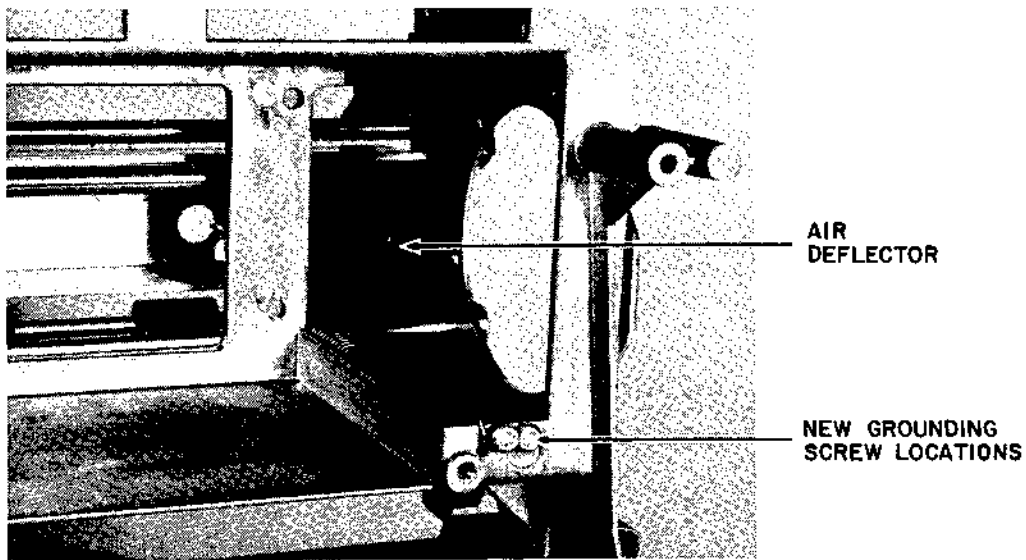

Figure 5-55 FAN AIR DEFLECTOR INSTALLATION
4. Locate the cavity into which the power supply is to be fitted. On the lower right front corner (as you view it) of this cavity, locate a screw hole provided for mounting the Bottom Feed Paper Chute. This hole is opposite the similar left-hand location used as a grounding point. Beside this screw hole is a smaller hole used for locating a carrier hold-down spring. Between this latter hole and the side member of the frame, drill two (2) 1/8" holes approximately 1/4" apart, as shown in Figure 5-55. These holes will be used as new grounding points for this installation. Be careful not to allow the drill shavings to get into the printer's mechanisms.
5. Study Figure 5-55. Locate and install the heavy paper air deflector, a part of the cooling fan installation, if the fan is to be used.
4. Study Figure 5-55. Locate and install the heavy paper air deflector, a part of the cooling fan installation, if the fan is to be used.